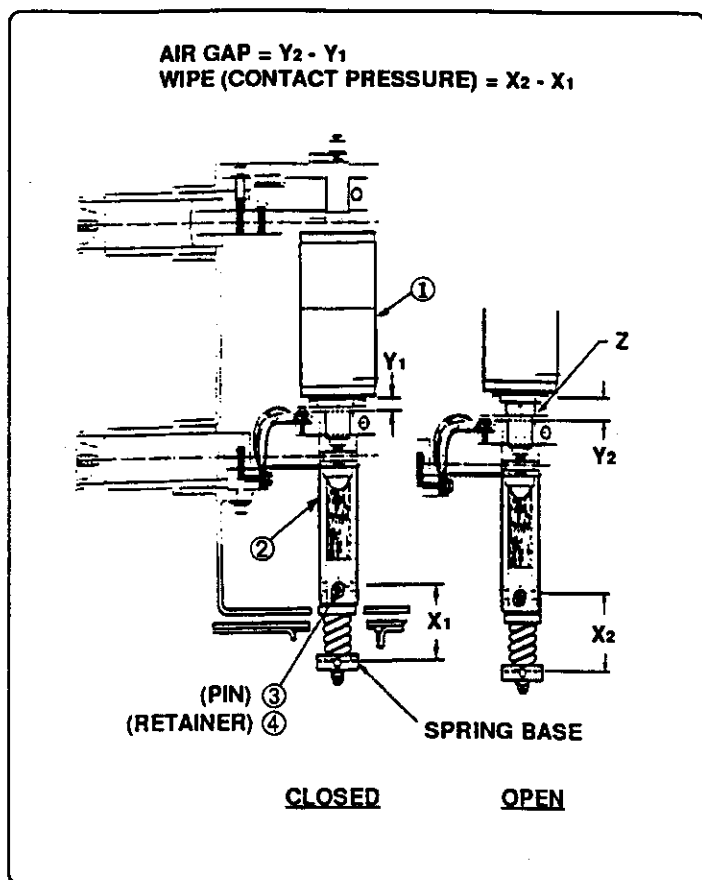

Fig. 5 - Contact Pressure
3. Contact Wipe (contact pressure) Check (See Fig. 5). The contact air gap and contact wipe is set at the factory by setting the vertical position of the interrupter (1) and the vertical position of the pushrod (2). These parts should not be repositioned in the field unless a pushrod change is required to correct contact sequence as described elsewhere. Contact wipe is set at the factory at .11 minimum. Contact erosion and wear in mechanical parts will cause a reduction in contact wipe over the life of the breaker and a check should be made to insure that the wipe is not less than .020". The measurement is made as follows for the three poles:
4. Contact Air Gap Check (See Fig. 5). The contact air gap is set at the factory at the nominal dimension of .43. This value will normally increase as the contacts erode. A check of the contact air gap checks that the breaker does open fully and that the gap is sufficient to withstand the applied voltage. The measurement is made as follows for the three poles:
5. Contact Sequence Check (See Fig. 5). All three poles should touch within 2 millisecond at normal closing speeds. An oscilloscope, oscillograph or other timing method may be used to establish the 2 millisecond timing.